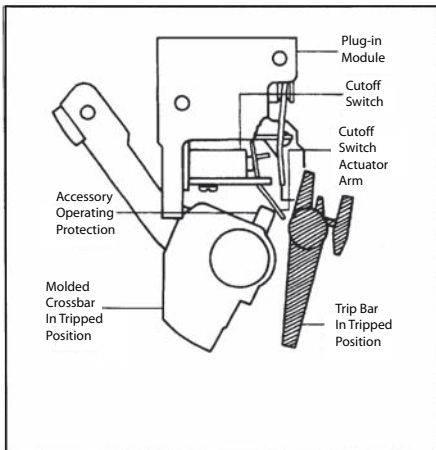

Fig. 2-5. Correct Position for Cutout Switch Actuator Arm and Molded Crossbar.
- c. End of switch actuator arm should be between crossbar and trip bar (see Fig. 2-5). For terminal block assemblies, slide terminal block into mounting slot in side of base as plug-in module is being positioned.